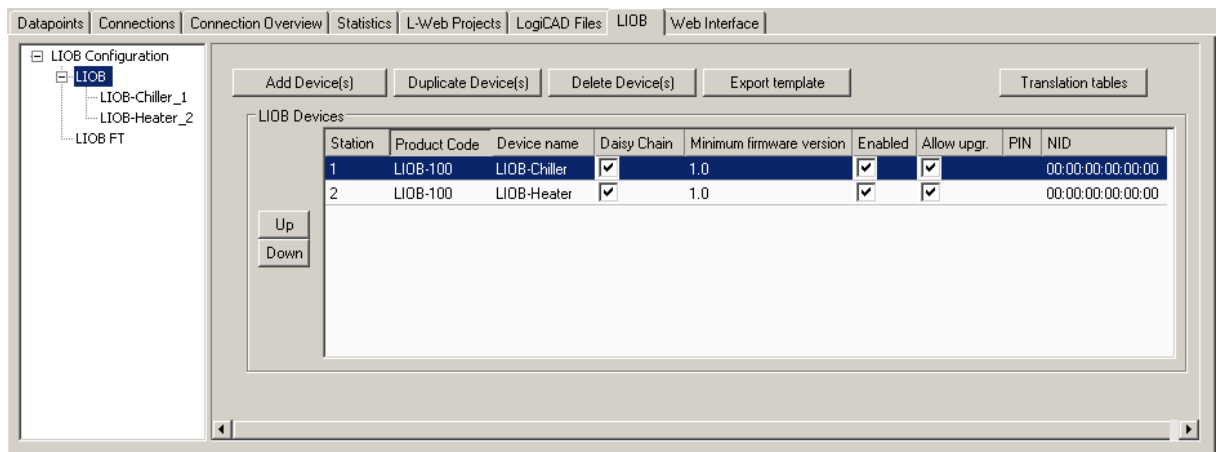

Figure 34: Add L-IOB devices to the LIOB Connect bus.
1. Add L-IOB devices on the **LIOB** tab from the supplied L-IOB templates using the **Add Device(s)** button as shown in Figure 34.